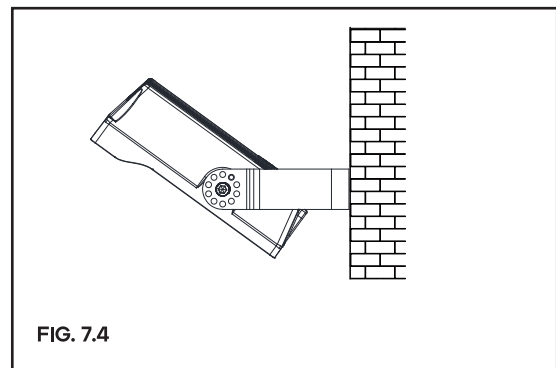

FIG. 7.4
STEP 3. Loosen screws; adjust fixture angles as per actual demands and tighten screws later. **FIG. 7.4**